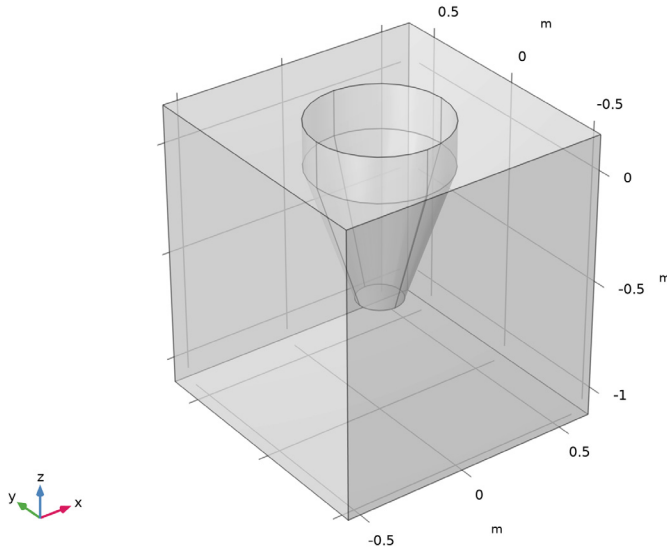

Figure 1: Model geometry.
The geometry consists of a hopper surrounded by a rectangular box. A total of 5000 grains of diameter 20 mm are directly released into the hopper and are allowed to settle under gravity. The grains are then allowed to exit the hopper through its outlet and are collected on the horizontal surface of the box. The model geometry is shown in Figure 1.
- 3 In the **Geometry** toolbar, click  **Build All**. The geometry should look like Figure 1.